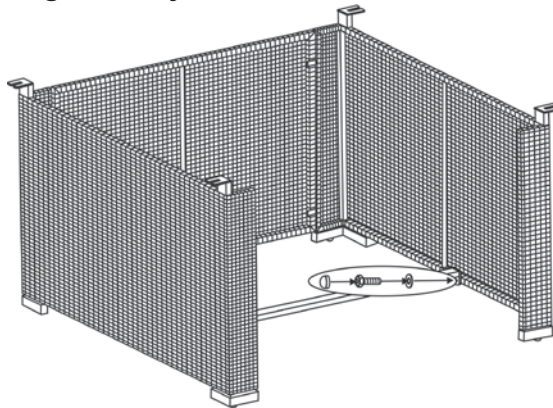

Figure 3
3. Attach the middle support to side panels by using four 1/4"x15 mm bolts and washers (L) as shown in Figure 3. Guide bolts through holes in middle support, into pre-drilled holes in the side panels. **Hand tighten only.**